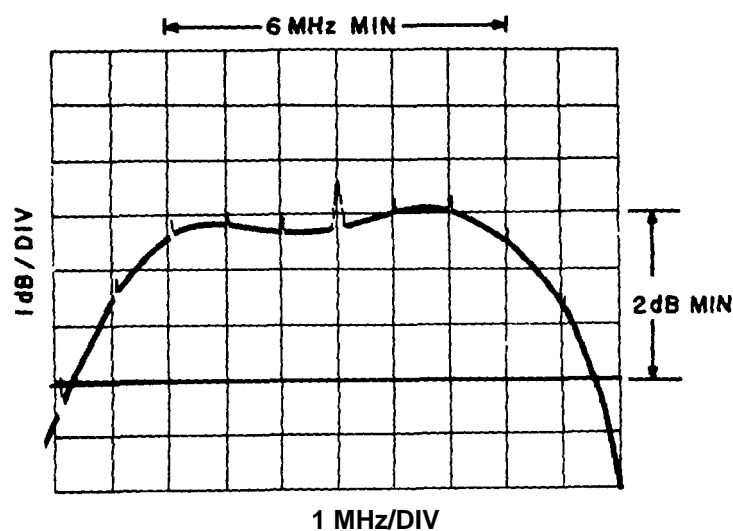

Figure 4-17. 1st Converter Alignment, Typical Response
5. Adjust Capacitors C4, C6, C8, C10, C12, C18, C20, and C22 for the maximum gain and flattest response about the 552 MHz center frequency (center of the CRT Horizontal scale). Refer to **Figure 4-17** for the typical 1st Converter response.